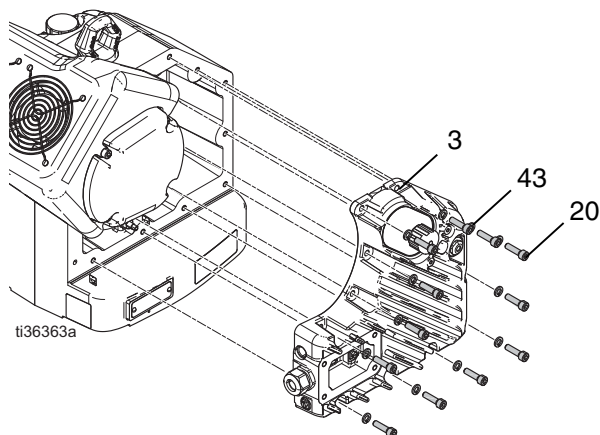

FIG. 17: Electronics Cover Removal
2. Install electronics cover (3), 12 washers (4), 12 screws (24) and torque to 15-20 ft-lb (20-27 N•m). See FIG. 17, page 16.
3. Remove 12 screws (24) and washers from electronics cover (3). See FIG. 17, page 16.